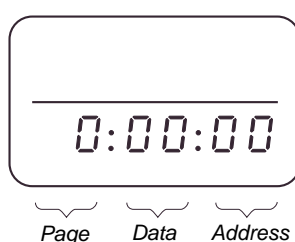

Fig. 4-9
- 2) Set the HOLD switch of the adjustment remote commander to "HOLD" (SERVICE position). If it has been properly connected, the LCD on the adjustment remote commander will display as shown in Fig. 4-9.